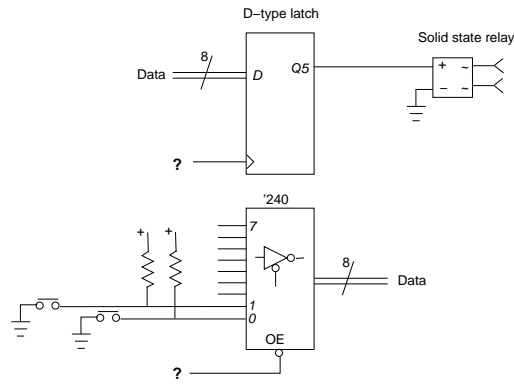

Figure 2: A circuit for digital I/O
4. Consider the circuit show in Figure 2, consisting of a digital input and a digital output (note that the '240 chip is an inverting buffer).